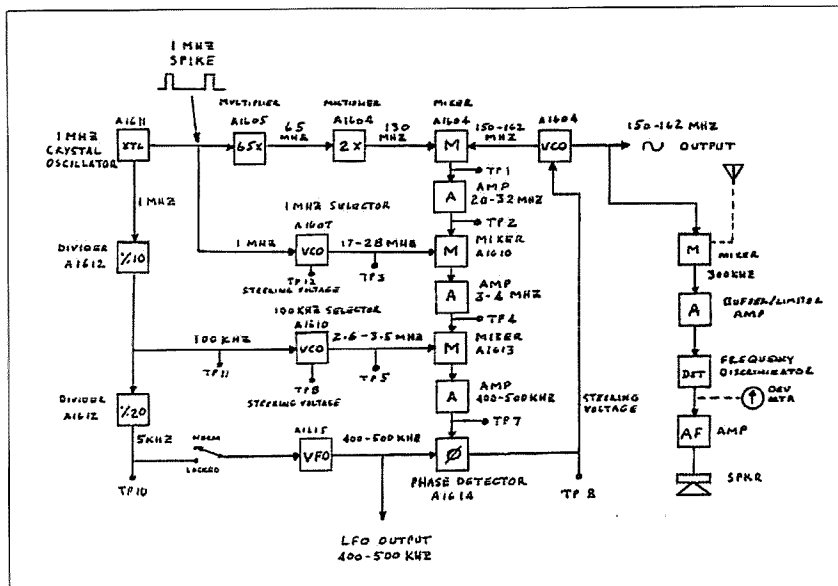

Fig. 1. This is a functional block diagram of the FM-9. Module designation numbers, test points, and frequencies are shown.
reasonably complex and the alignment of the internal circuits is quite critical. True. I didn't know anything about it either, but was willing to study and learn from the device. You must be familiar with phase-locked-loops and how to deal with them when they tend to drop out of lock. **Fig. 1** shows a simplified block diagram of the FM-9 showing the three VCOs and the LFO that are used to make up the signal generation/selection portion of the device. In addition to the generation of a signal, the FM-9 has a built-in low sensitivity receiver. The receiver portion utilizes the FM-9's generated output signal as a local oscillator that mixes with an incoming signal to create an intermediate frequency (IF). As I determined from working with my
To provide a frequency reference for the FM-9, the crystal's frequency is both multiplied as well as divided as shown in **Fig. 1**. A multiplier is used to increase the crystal's frequency to 130 MHz, allowing it to become the VHF frequency reference for the high frequency VCO. The divided output from the crystal is used for setting up the reference frequencies for the low